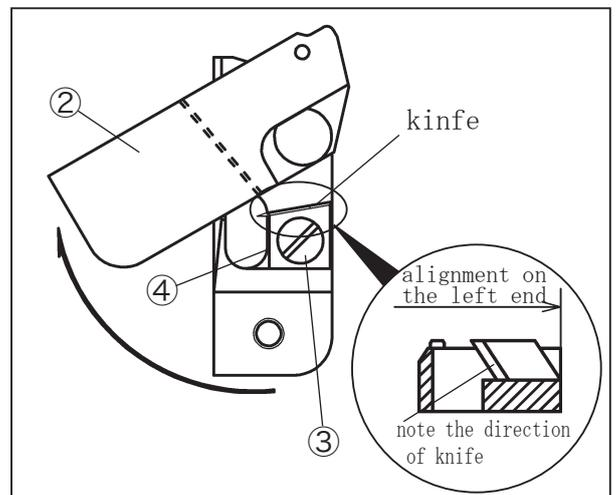

Fig. 4-2
- (1) Turn the thread chain presser plate ② in the arrow direction with raising it slightly. (See Fig. 4-2)
- (2) Loosen the screw ③.
- (3) Change the knife. Regarding the direction and position of a knife, see Fig. 4-2.
- (4) Tighten the screw ③ securely and fasten a new knife.
- (5) Fit the pin hole and the slot for the knife of the thread chain presser plate ② on the pin and the knife respectively and return the thread chain presser plate ② to the original position.